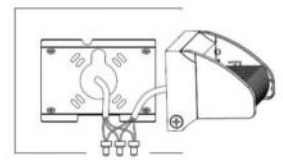

Figure 1-4
4. Make wiring connection and go through isolation treatment.(Figure 1-4)